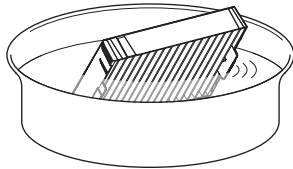

Fig. 1
#### 1) Remove the air filter cover. (Fig. 1)
**1) Wash the air filter unit. (Fig. 1)**